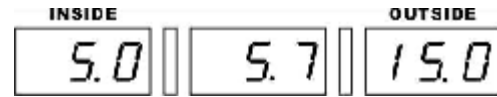

Fig 13
- I Reset the automatic measure scale, the control panel will display the data measured just now, and "a" value and "d" value are also automatically measured and displayed as shown in Fig 13.